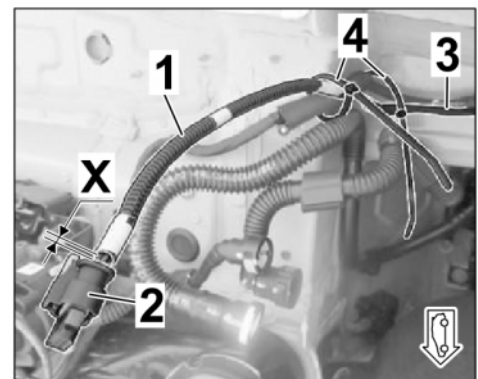

Figure 26
3.4.5 Install corrugated hose 4.5 x 7.6 x X to each branch from a distance of approx. 30 mm from the connector (socket housing 4-pin) to the underbody. ⇒ *Figure 26*